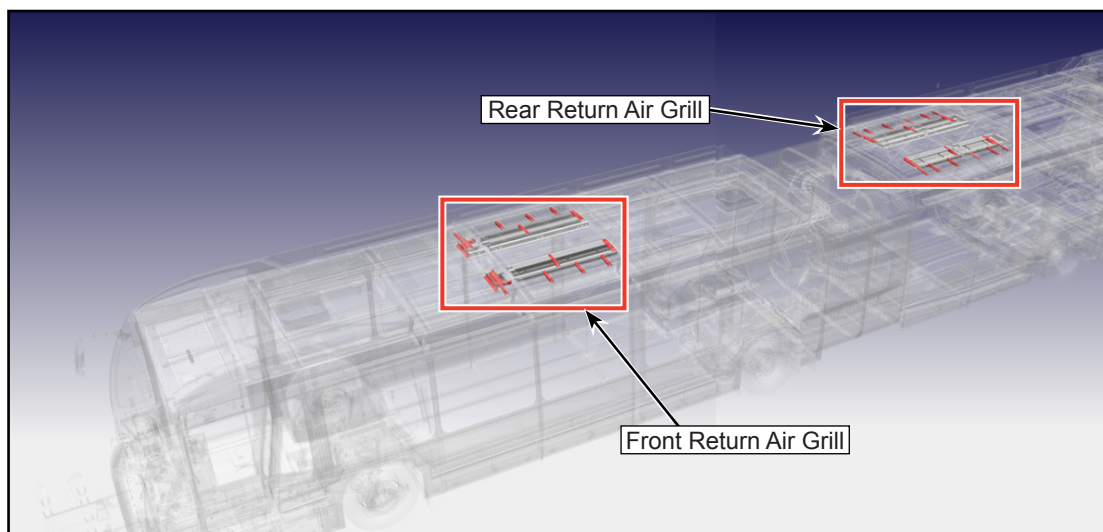

Figure 2 - Typical Location of Return Air Grills
- 1.4. Locate all the return air grills present inside the vehicle (see Figure 2).